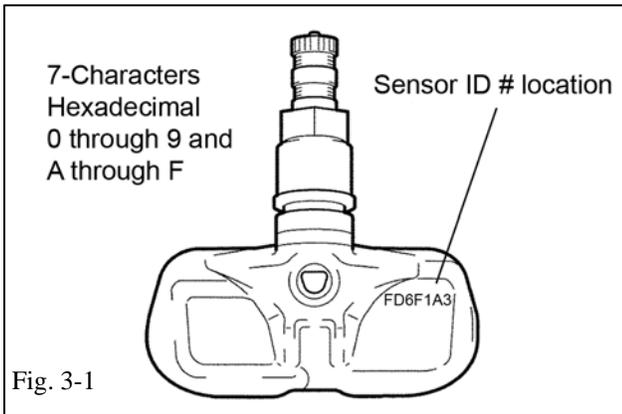

Fig. 3-1
- (a) If previously removed sensor is 20 degree sensor, proceed to step 3 (c). If previously removed sensor is 40 degree sensor, you must install new 20 degree sensors into accessory wheels. When installing new 20 degree sensors, you **MUST** record sensor ID codes for all 5 wheels and register these 5 new ID codes (Fig. 3-1) with the vehicle ECU. Each sensor has a unique sensor ID code. The sensor ID code is an 7-character hexadecimal string comprised of numbers 0 through 9 and letters A through F. See Fig 3-1 for example code and location.